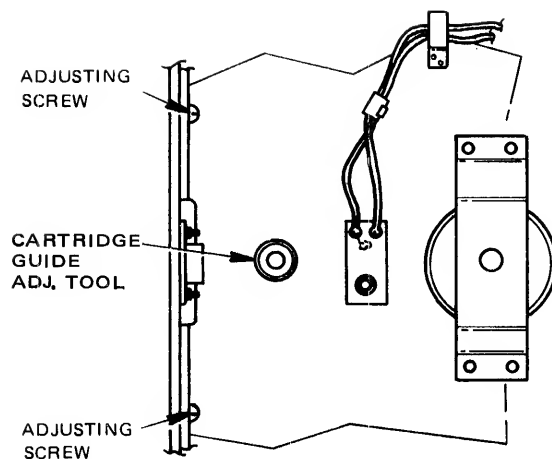

FIGURE 10 CARTRIDGE GUIDE ADJUSTMENT
- a. Insert the shoulder screw (tool p/n 50377) through the adjustment hole in the cartridge guide and screw completely into the base casting (hand tight). Reference Figure 10.